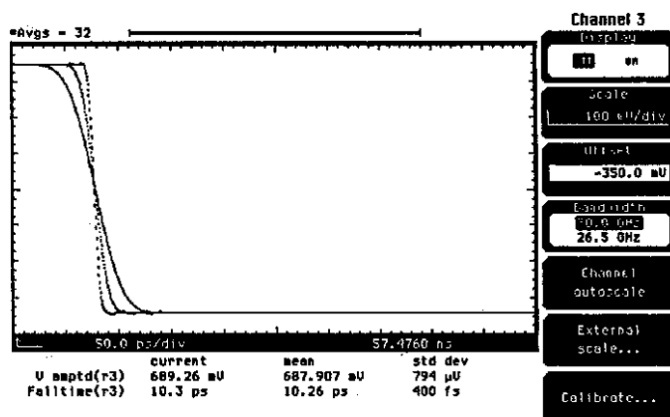

Figure 9: Normalized Pulse Waveforms with 50 ps, 25 ps and 10 ps Falltimes. 50 ps/div.
17. Push the "TDR/TDT Setup" button for a menu. Push "Normalized response". Now experiment with various "Risetime" settings, and note their effect on the normalized waveform. Figure 9 shows the results for risetime settings of 50 ps, 25 ps and 10 ps. The fastest allowed setting is 10 ps.